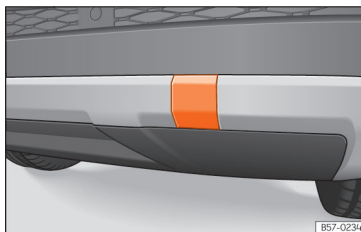

Fig. 103 Rear bumper on right: remove the lid.
The housing of the screw towing eye is on the right side of the rear bumper behind a lid »» **Fig. 103**. Vehicles equipped as standard with a towing bracket **do not** have any housing for the screw towing eye behind the lid. In this case, the tow hitch needs to be extracted
- Press the upper side of the lid »» **Fig. 103** to unclip it.